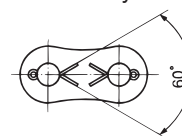

Figure 22: Open Legs of Cotter Pin
- 1) After the cotter pin has been fully inserted into the hole on the end of the pin, open the legs of the cotter pin to an angle of around 60° (Figure 22). Do not re-use cotter pins. Do not use commercially available cotter pins.